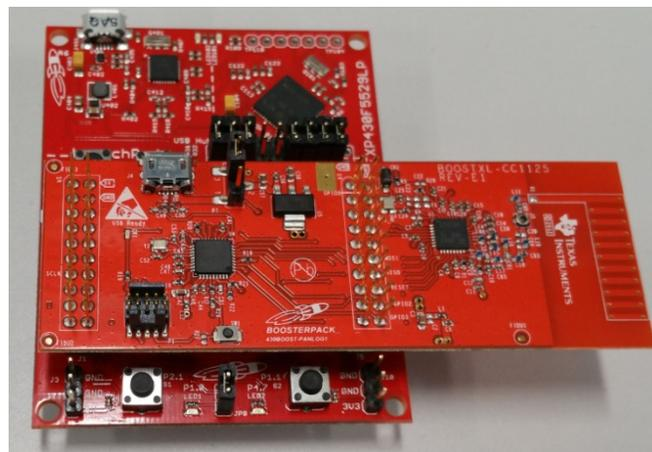

Figure 4. BOOSTXL-CC1125 With LaunchPad
1. Install the BOOSTXL-CC1125 on to the LaunchPad as shown in Figure 4.